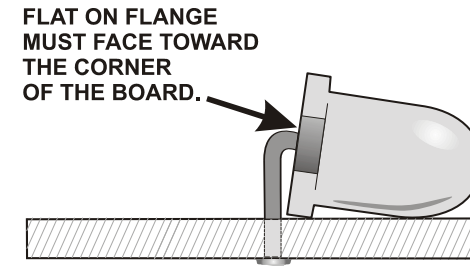

Figure 9. Installing LED D1.
- Bend the leads so that when they are inserted through the solder pads, D1 rests against the board as shown in **Figure 9**. Note: This LED is provided to illuminate your note pad or log while operating in the dark. The slight downward angle will help direct the light down onto the table top.